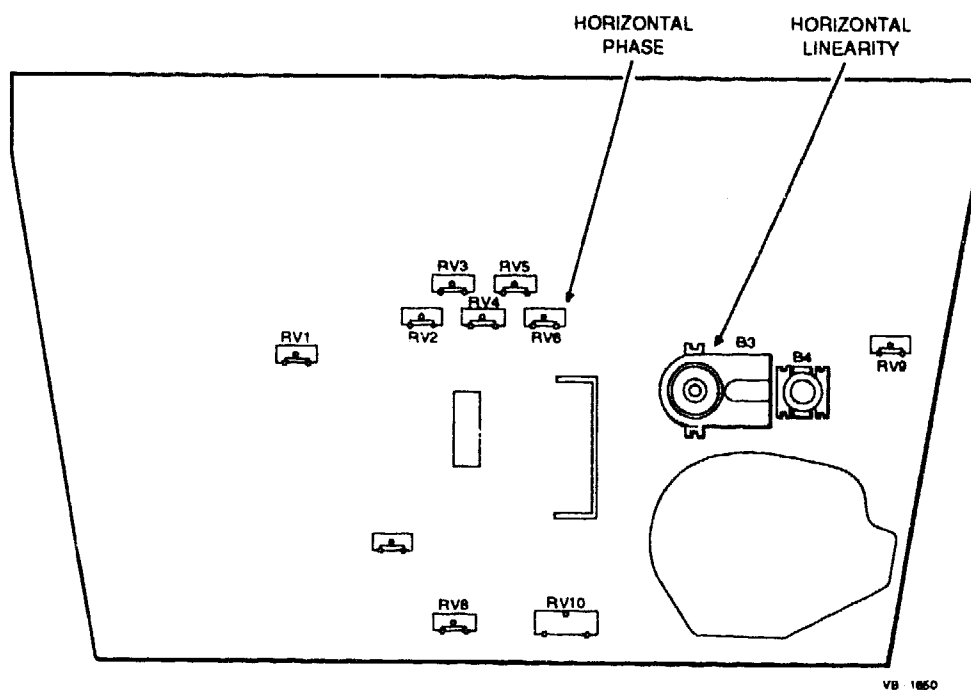
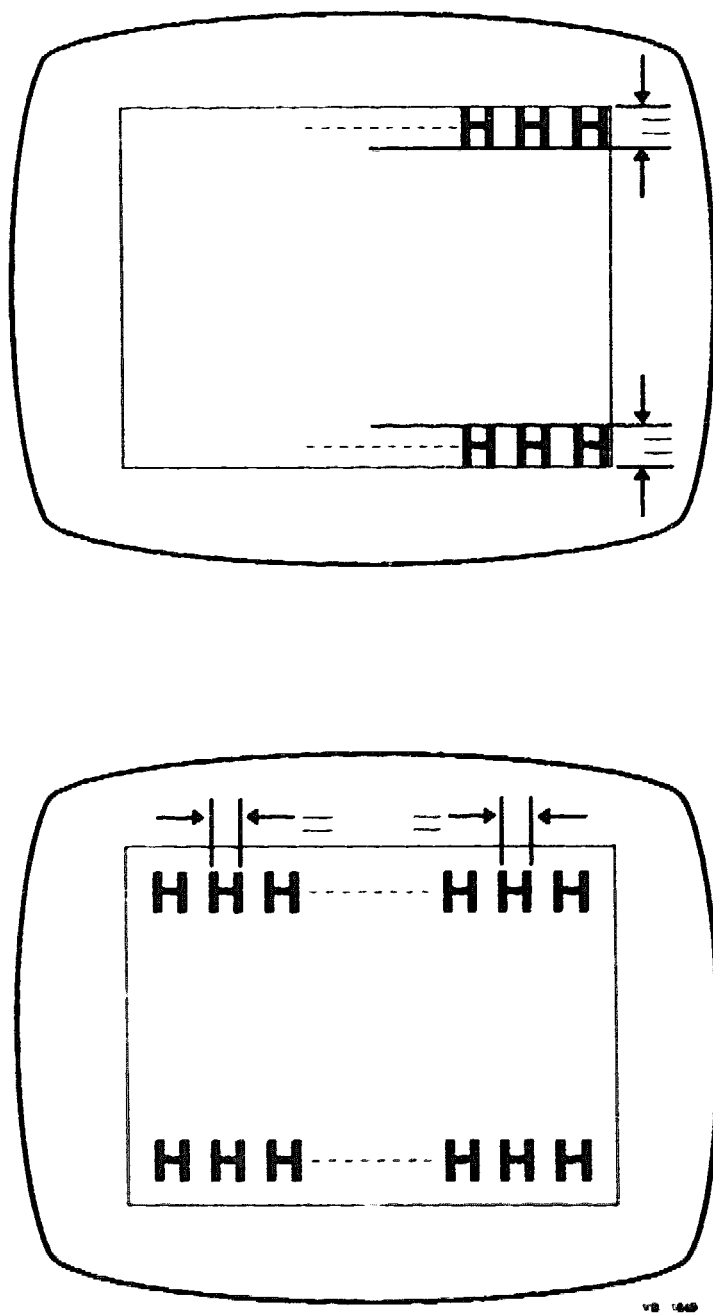

Figure 4-4 Monitor Board Trimmer RV6 & Coil B3
Figure 4-5 Vertical Linearity Screen Display
4. Adjust trimmer RV6 (Figure 4-4) to obtain equal character height (Figure 4-5).
5. Adjust coil B3 (Figure 4-4) to obtain equal character width (Figure 4-5).